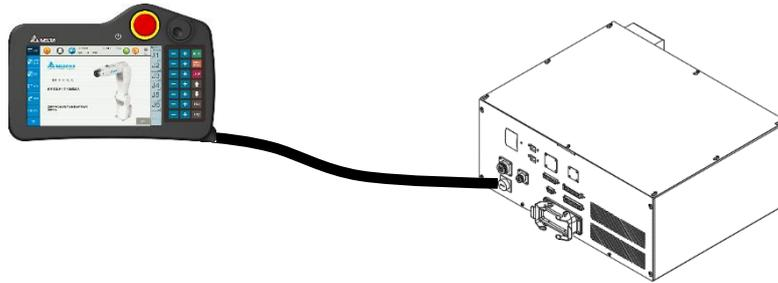

Figure 8.29 Teach pendant connection location
1. When teach pendant is used to operate the robot, please connect the teach pendant connector onto the controller. Please disconnect the power before connecting; the location for connection is as shown in Figure 8.29.